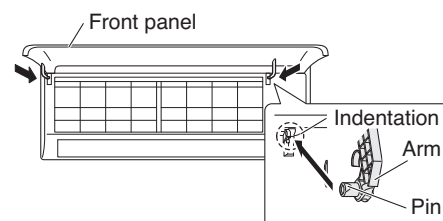

Fig. 18
- (1) While aligning the top edge of the grille with the frame, move the grille horizontally and insert the top and bottom into the frame.
- (2) Press the grille firmly with your hand to ensure no gap exists between the frame and grille.
- (3) Tighten the 6 screws. And fix the removed covers in place.
- (4) Grasp the sections near the front panel arms on both sides, and hold the front panel so that it is nearly horizontal. Push the arm shafts towards the outside so that they come into contact with the top of the indentations on the right and left sides of the air conditioner. Then push firmly until the arm shafts click into place. (Fig. 18)
- (5) Remount the lower flap.